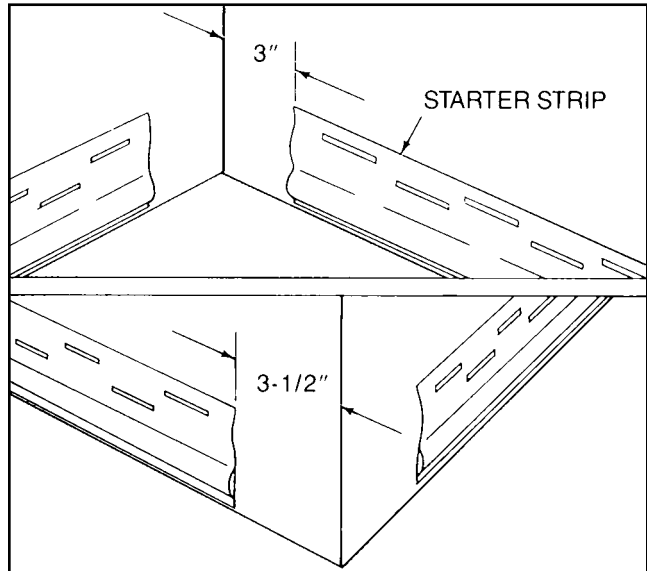
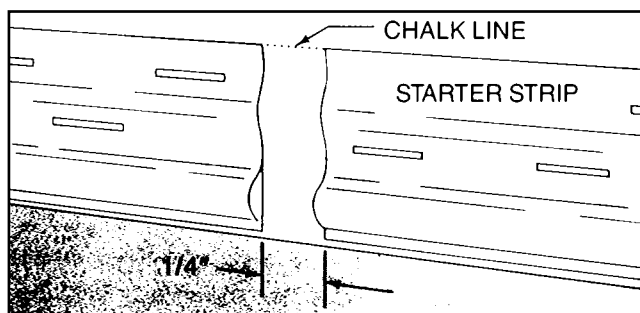

Fig 5.3
Fig 5.2
**2. STARTER STRIP** Align the top of the starter strip with the chalk line and install along the bottom of the building. Keep ends 1/4" apart to allow for expansion (Fig. 5.2). Allow 3" at inside corners for corner posts and 3-1/2" at outside corners for corner posts (Fig.5.3). If installing with insulation, furr or shim as necessary to accommodate thickness and attach starter strip to furring.